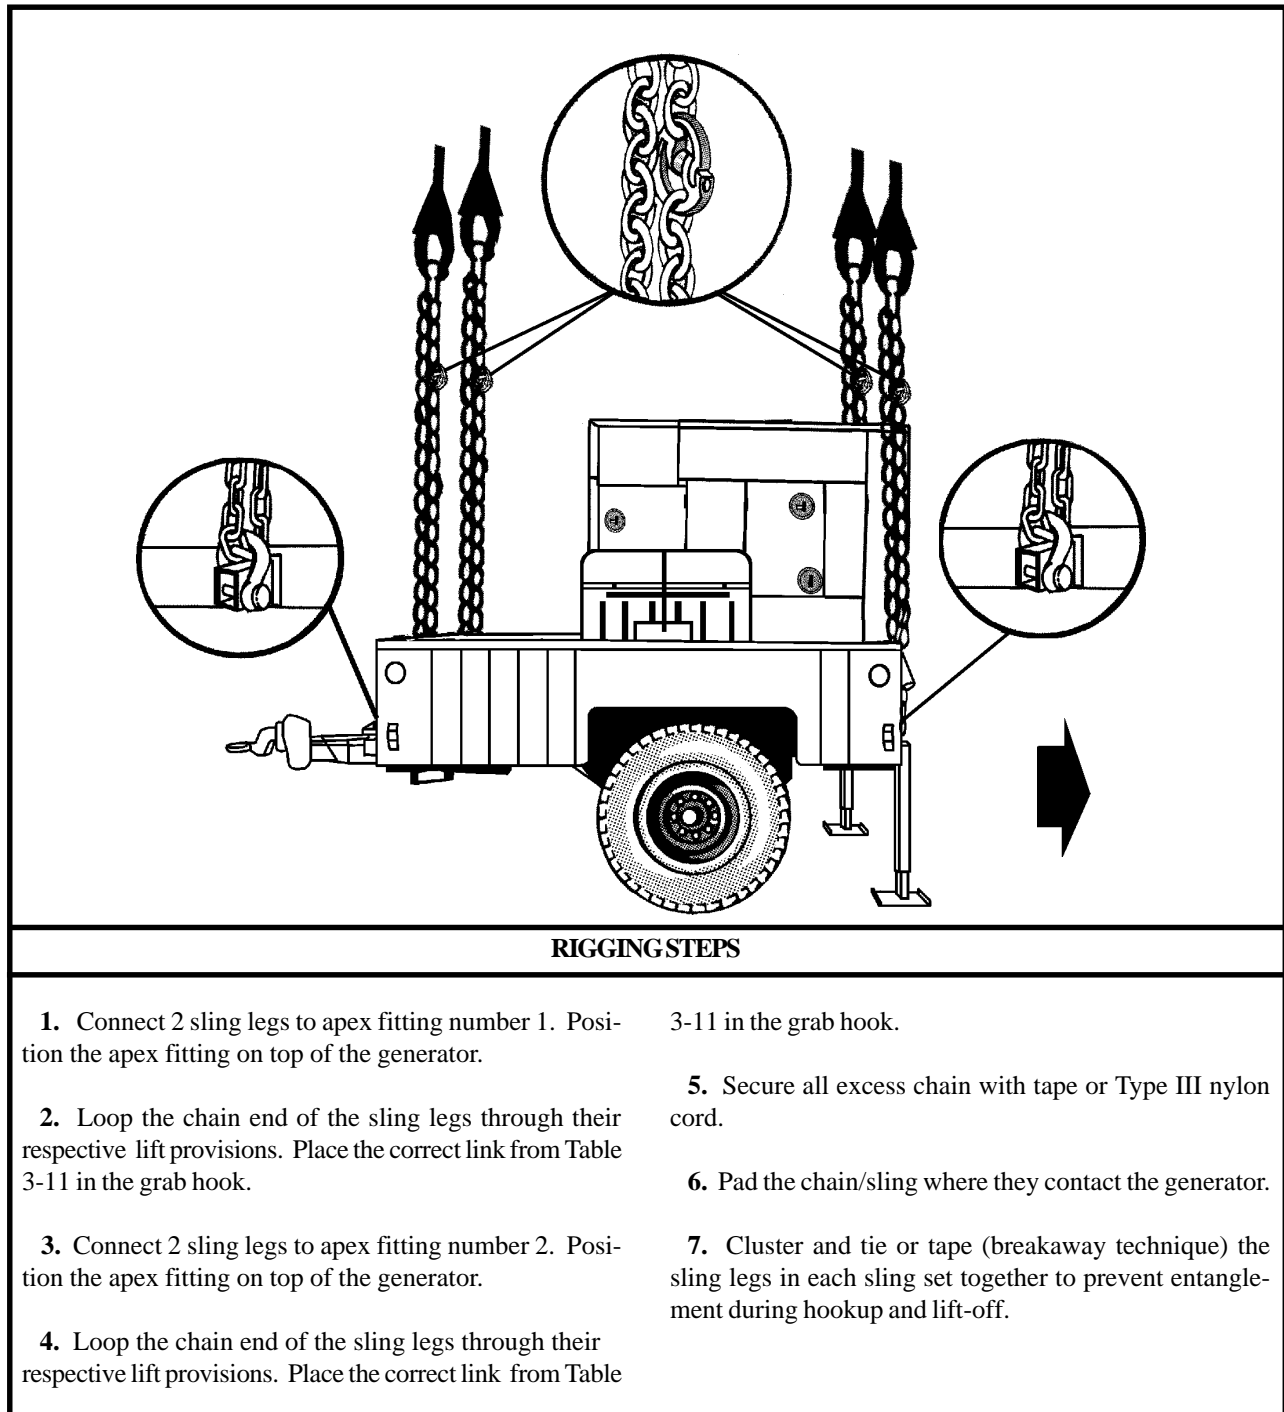

Figure 3-11. High Mobility Trailers with Generator (JSTAR)
(2) **Rigging.** Rig the load according to the steps in Figure 3-11.